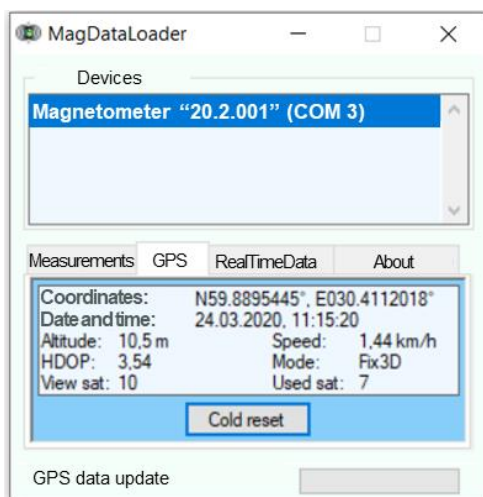

Figure 51 – Successful update of GNSS data
2. Switching to the GPS tab allows you to display data from a GNSS receiver in real time with a frequency of 1 Hz in case of successful binding to GNSS coordinates (Figure 51). The screen displays the coordinates of the receiver, date and time of measurements, absolute height relative to sea level in meters (Altitude), speed between pickets in km/h (Speed), horizontal dilution of precision (HDOP), measurement mode (2D or 3D depending on the number of visible satellites) (Mode), as well as the number of visible (View sat) and used (Used sat) satellites.